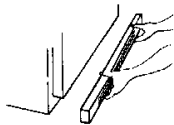

Fig. 17
7. With a putty knife, remove the screw hole plugs on the opposite side of the bottom hinge and set them aside (Some models do not have these hole plugs). Remove the base grille (see page 9, Fig. 17). With a 5/16" socket and ratchet, remove the three screws from the bottom hinge and shim. Remount the bottom hinge and shim with the same screws on the opposite side. The bottom hinge should be slid as far as it can towards the side of the cabinet.
11. Take the lower door and center hinge and place it onto the bottom hinge pin. Make sure the bottom hinge pin enters the bushing at the bottom of the door. Position the door in the opening and slide the center hinge over the shoulder screw. Now tighten the screw, closest to the new handle location, on the center hinge. Avoid over tightening this screw. Reverse the ends of the base grille and reinstall to the cabinet base (see Fig. 17).
Grasp the base grille at both ends and pull straight out. To replace the base grille, align the spring clips with the round openings in the cabinet and push each end in until the grille locks into place. (See Fig. 17.)